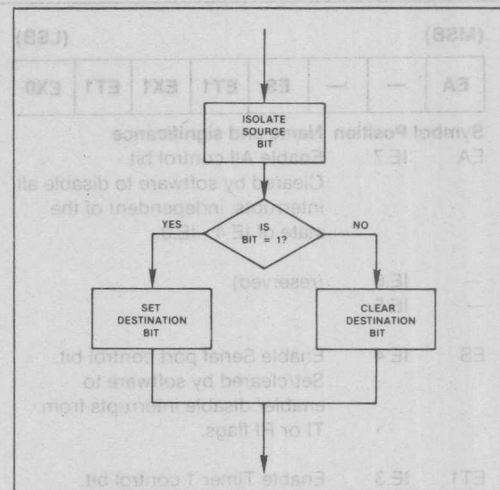

Figure 8. Bit Transfer Instruction Operation.
**Data Transfers.** The two-byte MOV instructions can transport any addressable bit to the carry in one cycle, or copy the carry to the bit in two cycles. A bit can be moved between two arbitrary locations via the carry by combining the two instructions. (If necessary, push and pop the PSW to preserve the previous contents of the carry.) These instructions can replace the multi-instruction sequence of Figure 8, a program structure appearing in controller applications whenever flags or outputs are conditionally switched on or off.